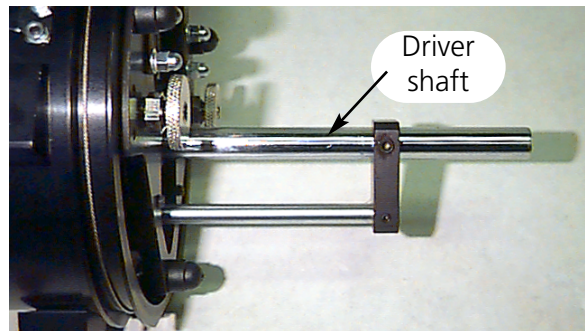

Figure 4-17
3. If you are using a Wide-Angle Cap Frame, the message **Wide-Angle Driver Shaft** will appear; press . Remove the wide-angle driver from the peripheral. Wipe the lint off the driver shaft (see Figure 4-17).